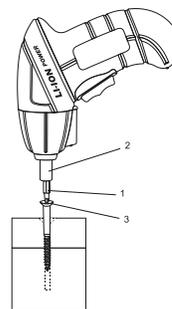

Figure 7
2. Insert the bit (1) fully into the screwdriver collet (2) (Fig. 7).
3. Insert the screwdriver bit fully into the screw head (3).